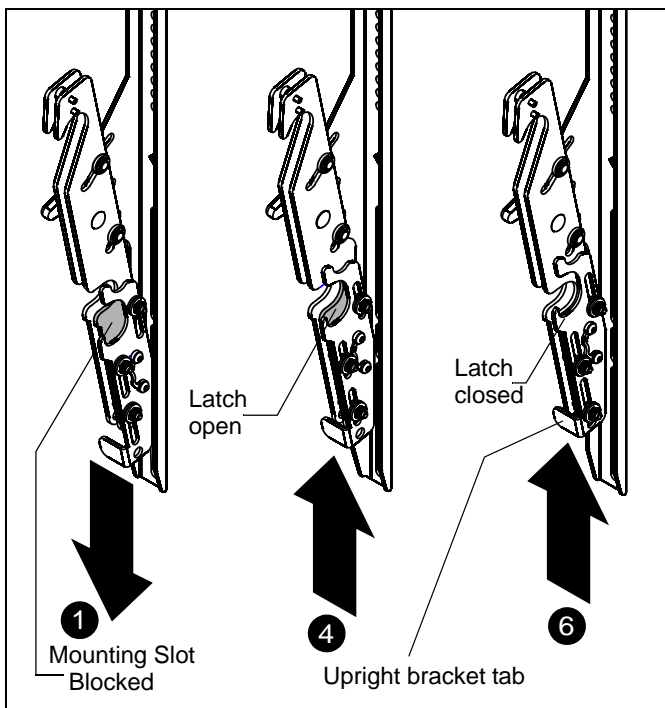

Figure 8
1. Push upright brackets tabs all the way down so that the lower mounting slot is blocked. (See Figure 8)
4. Move screen towards the wall by pulling display bottom away from wall and pushing the upright brackets tabs up one notch to the detent which you will be able to feel. (approximately half way up). (See Figure 8)
6. Raise upright brackets tabs all the way to secure the brackets onto the wall mount. (See Figure 8)